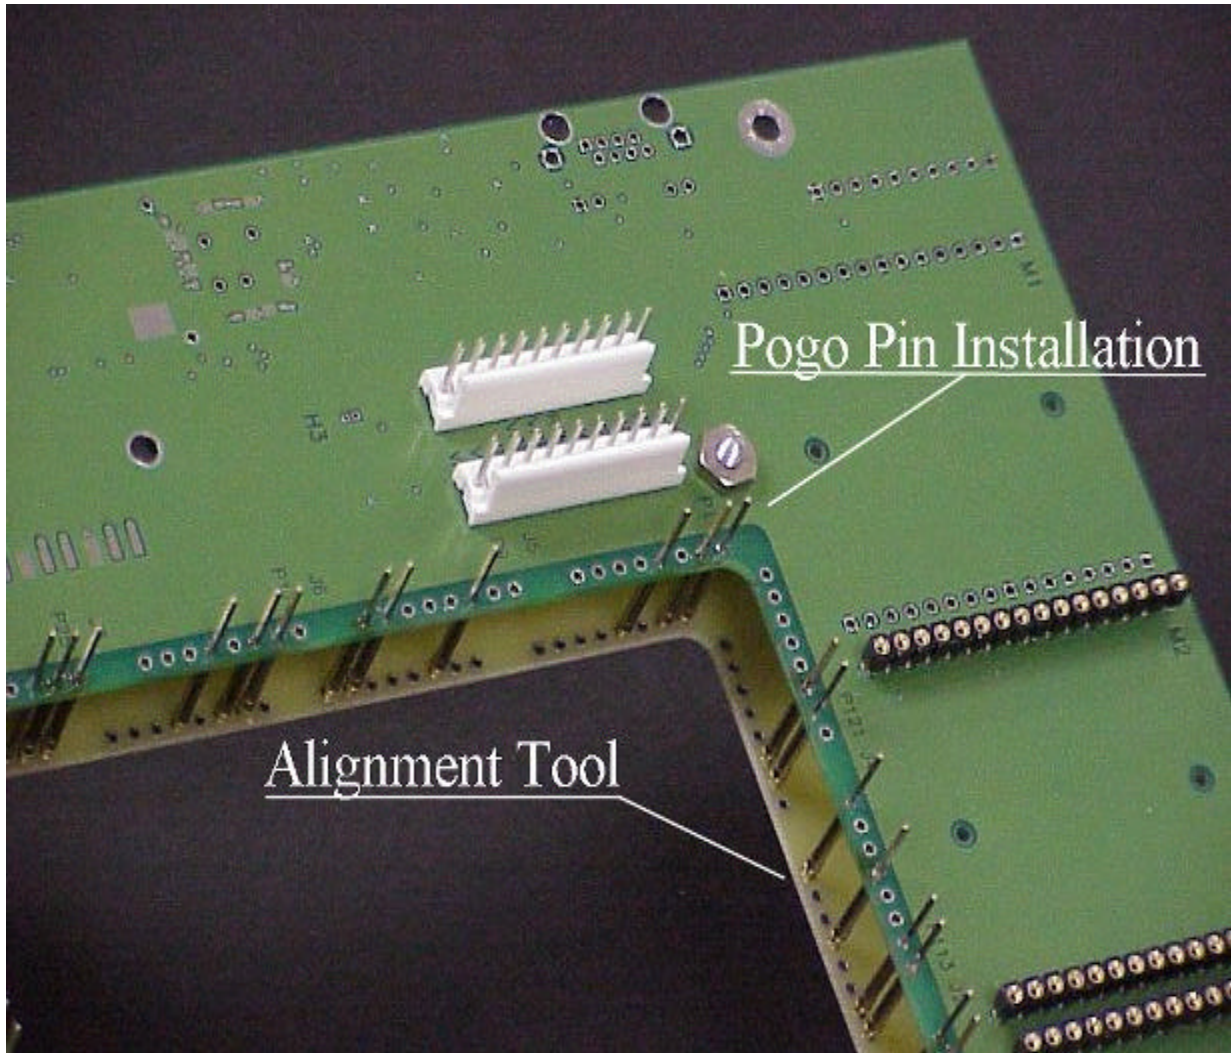

Figure 3
1. Install the required **pogo pins** for the application using the **alignment tool** provided in the RiK0013A or RiK0014A kit (Fig 3). The pogo pin inserts need to be pressed into the pogo housings prior to this step.